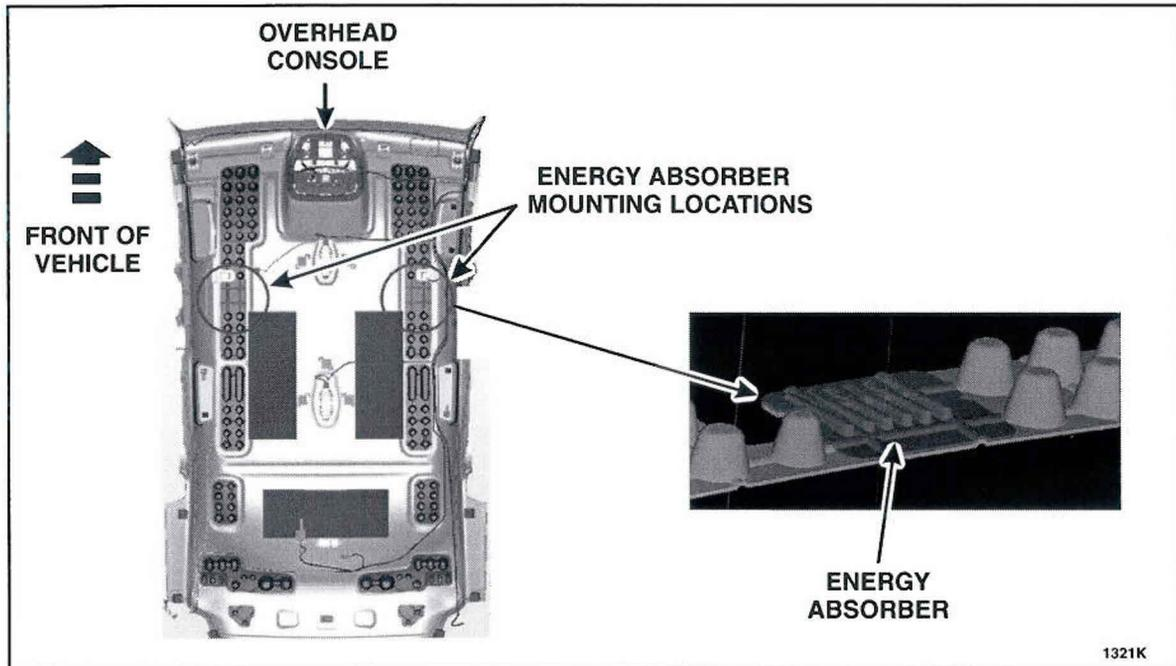

FIGURE 12
16. Lower the headliner far enough to access the areas where the energy absorbers will be attached. See Figure 12.